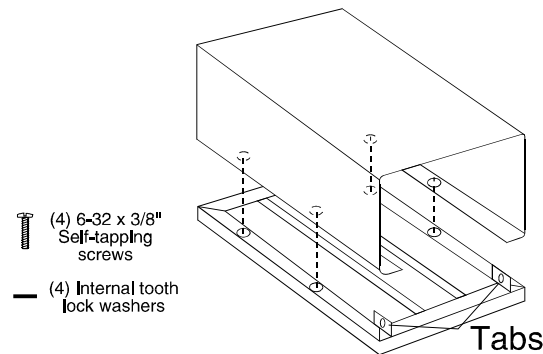

Figure 14
- c. Put the cabinet cover on the frame, making sure the holes in the lip of the cover line up with the matching holes in the frame. (See Figure 14 below.) Then, use the screws to attach the cover to the frame as shown in Figure 14.